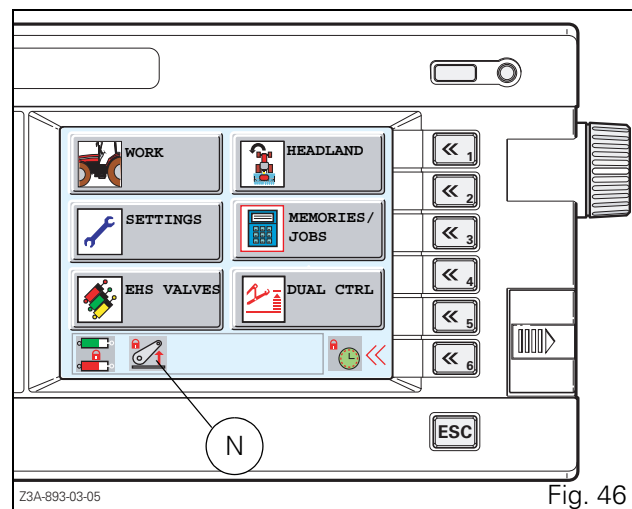

Fig. 46
The purpose of this device is to avoid any accidental and dangerous movement of the linkage if someone alters the settings on the console while the tractor is stationary. To reactivate the linkage, move switch (E) to the intermediate position, then to the Lift position. The linkage is then brought back into operation and the padlock (N Fig. 46) in the Datatronic 3 window disappears, if this is installed.